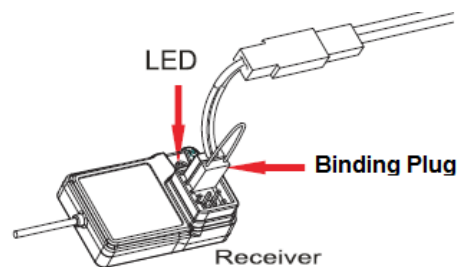

Figure 1
1. Insert the binding plug to the BIND/ CH3 port on the receiver (see figure 1)